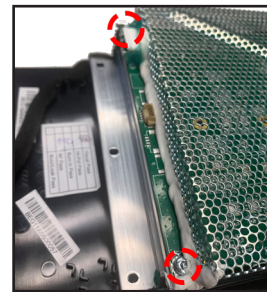

Figure 9. Shield Cover Screws Removal 2
2.4 Remove the 12 screws that secure the Shield cover of Power-Amp board as indicated in Figure 8 & Figure 9.